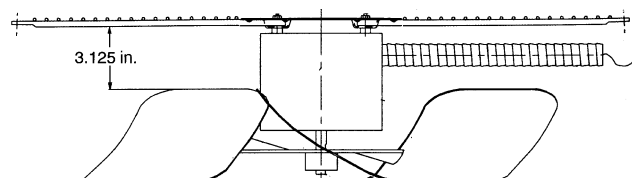

Fig. 18 — Condenser-Fan Adjustment
4. Adjust fan height as shown in Fig. 18.